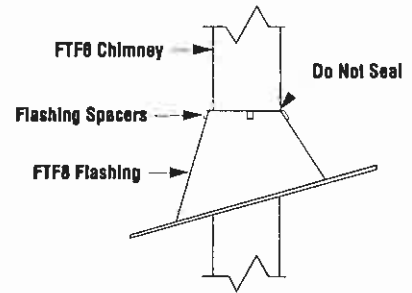

Figure 26
Next, slide roof flashing over extended chimney section that previously has been installed above the roof opening in Step 4. FTF8 flashings require flashing spacers. Slide flashing all the way down until the flashing base rests flat on the roof (Figure 26). Again, check the vertical position of the chimney and the 2" minimum air space to combustibles (see ****Note**).
Step 1. Use Offset Chart to determine amount of horizontal offset (A) and height (B) for various chimney section assemblies.
Step 3. Use Elevation Chart as job estimator only. Add necessary firestop spacers and stabilizers as required. Firestop spacers must be used as shown in Figures 21 and 22 and stabilizers as shown in Figure 26.